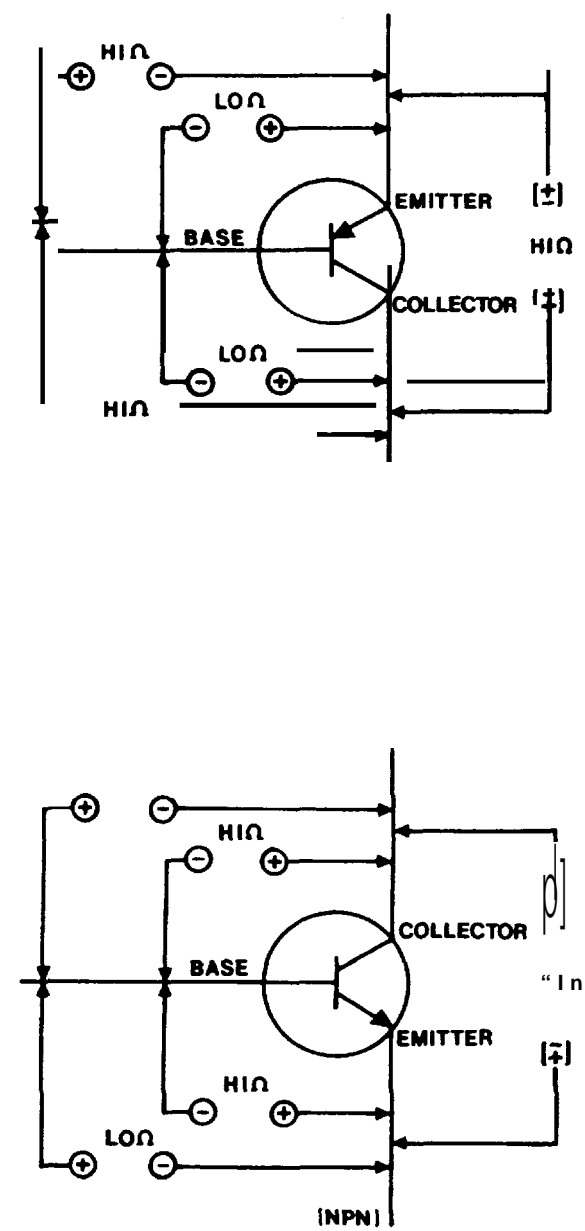

Figure 7-5. Transistor Testing: a) PNP type, b) NPN type.
(1) *Testing.* The bipolar junction transistor (BJT) is tested just like the general purpose rectifier diode. These transistors are actually two diode junctions combined in such a way as to obtain current control. General purpose transistor testing is done as follows (fig 7-5):